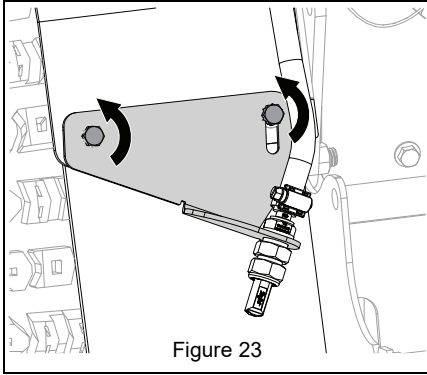

Figure 23
1. Loosen but do not remove bracket hardware. See Figure 23.